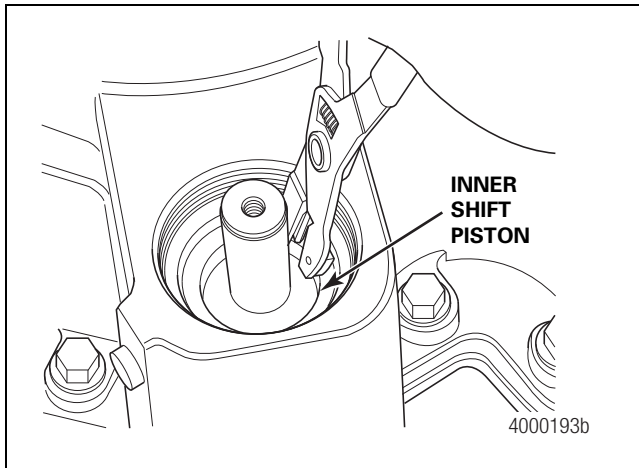

Figure 4.17
5. To remove the inner piston, reinstall and hand tighten the shift cylinder. Apply air to the high gear input port. When the air pressure pushes the inner piston UP, remove the snap ring and inner piston. Figure 4.17.